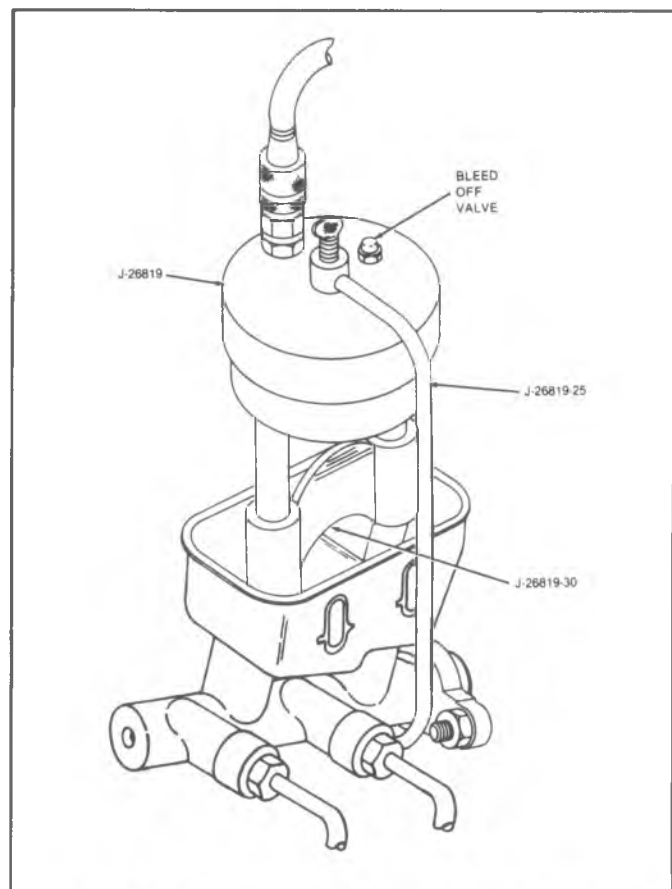

Fig. 5-4--Pressure Bleeding (CK Models JB1 thru JB6)
1. Install the correct pressure bleeding adapter to the master cylinder. Brake Systems JB1 through JB6 gas engine vehicles require adapter J-26819, extension J-26819-30 and clamp J-26819-25. All other systems use J-23518. Refer to Fig. 5-4, special tool illustration and brake system description chart.
NOTICE: It is very important that the correct master cylinder bleeder adapter be used to avoid possible damage to the master cylinder reservoir (fig. 5-4).